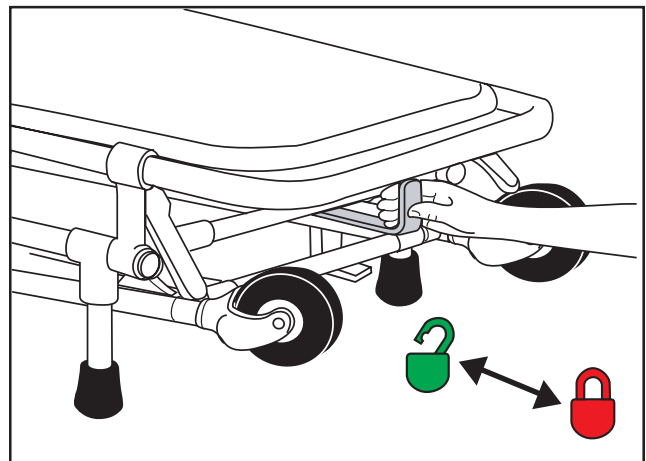

Figure 4 - Pull the Lock Handle to Engage the Leg Lock
- To engage the leg lock, place the cot in the folded position and pull the lock handle (Figure 4).